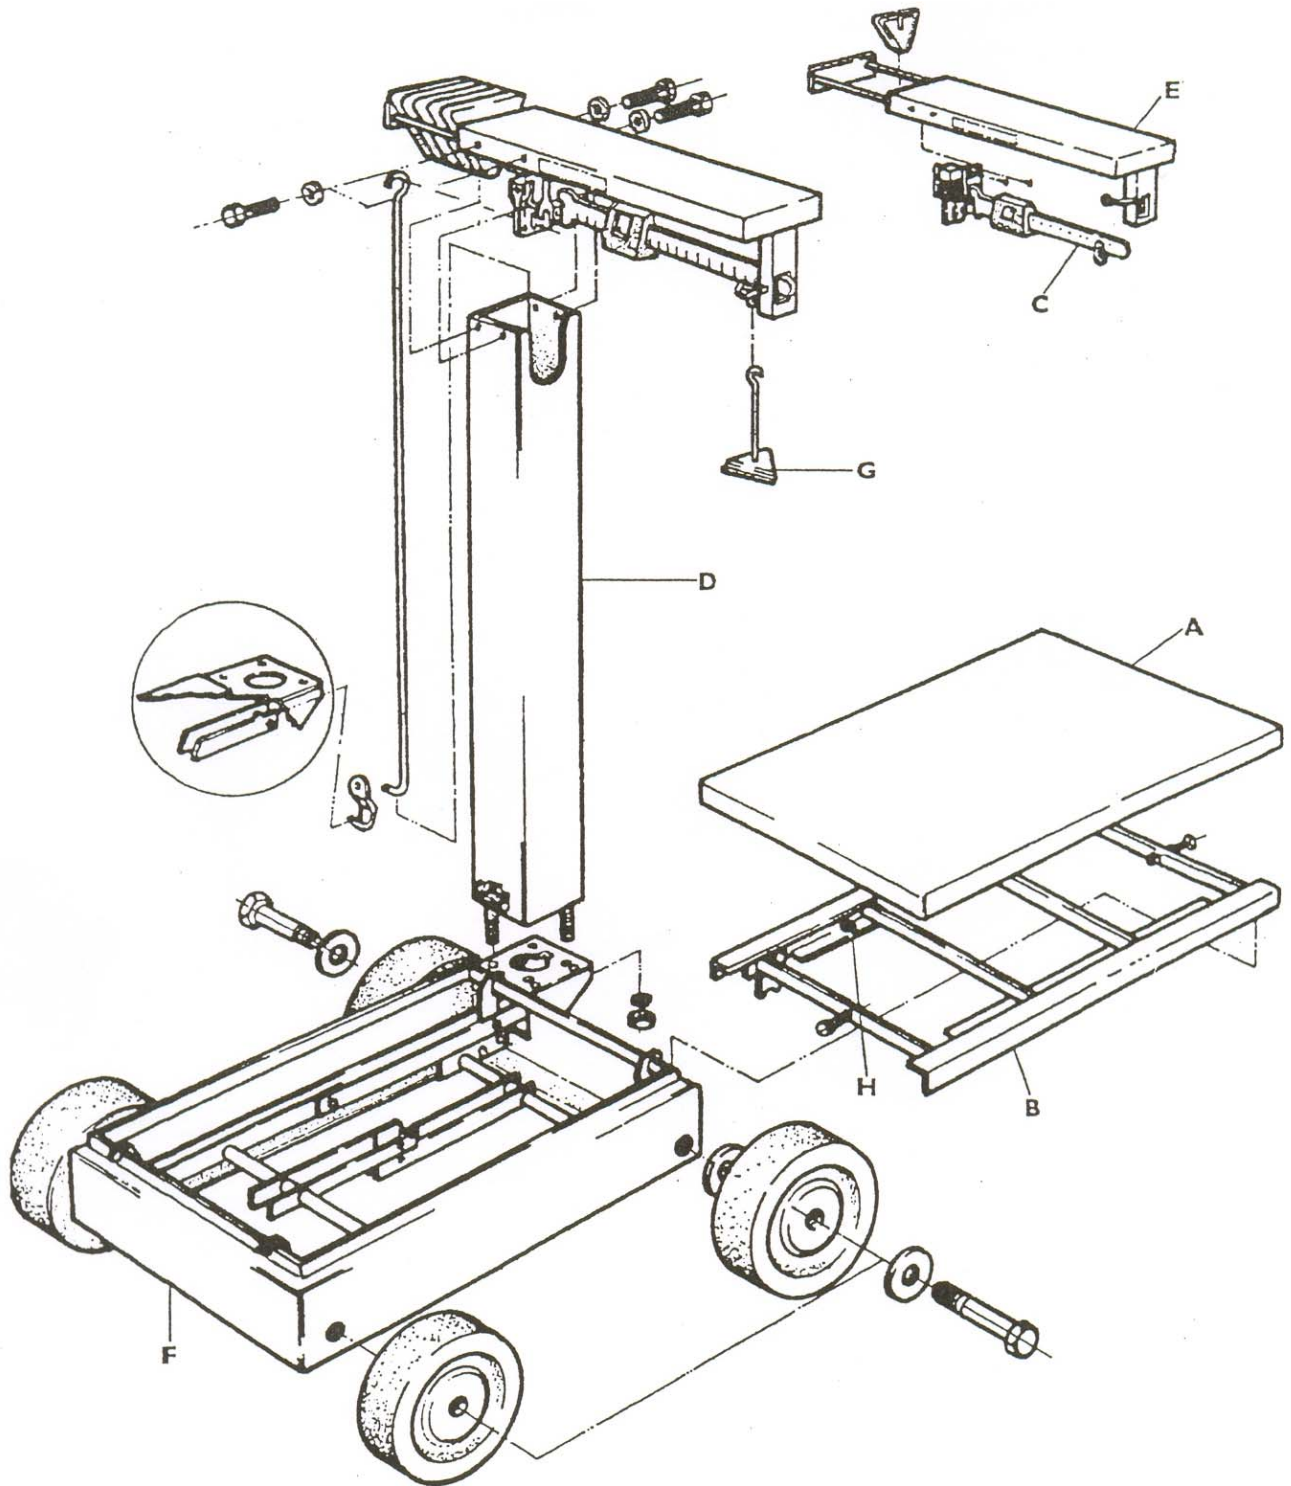

Figure 2
(NOTE: Refer to the exploded view diagram, Figure 2, for assembly assistance).
3. For reinstallation purpose, note the location of the level bubble (item H, figure 2) on the spider assembly. Also note the position of the two bolts in the center front and center back of the spider assembly. Lift out the spider assembly and place it off to the side
9. Place the hook onto the bottom end of the steelyard rod (refer to the exploded view diagram, Figure 2, for proper positioning). Lift the assembled beam, turn it over, and attach the top of the steelyard rod through the stirrup on the beam assembly.